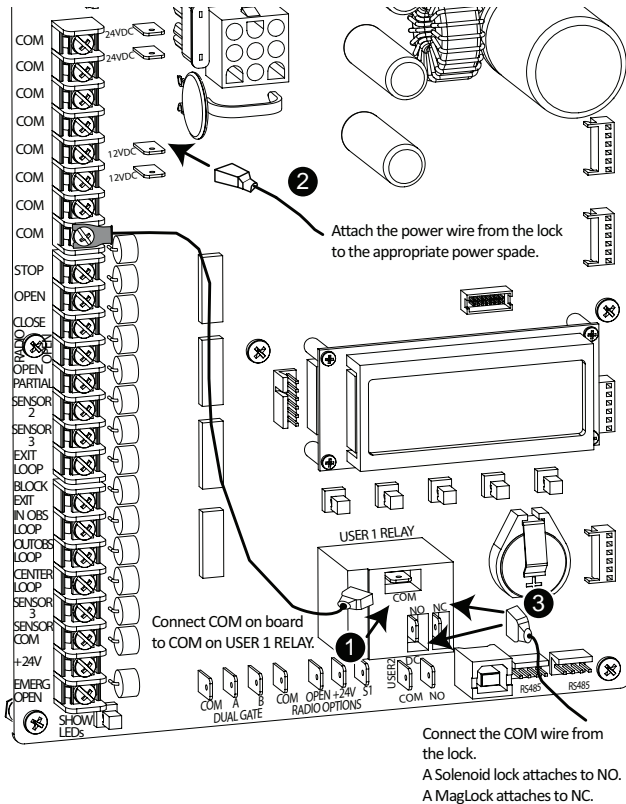

Figure 60. Lock Installation 12/24 VDC
1. Connect a wire between COM on USER 1 RELAY and a COM terminal on the Smart DC Controller board. See Figure 60.